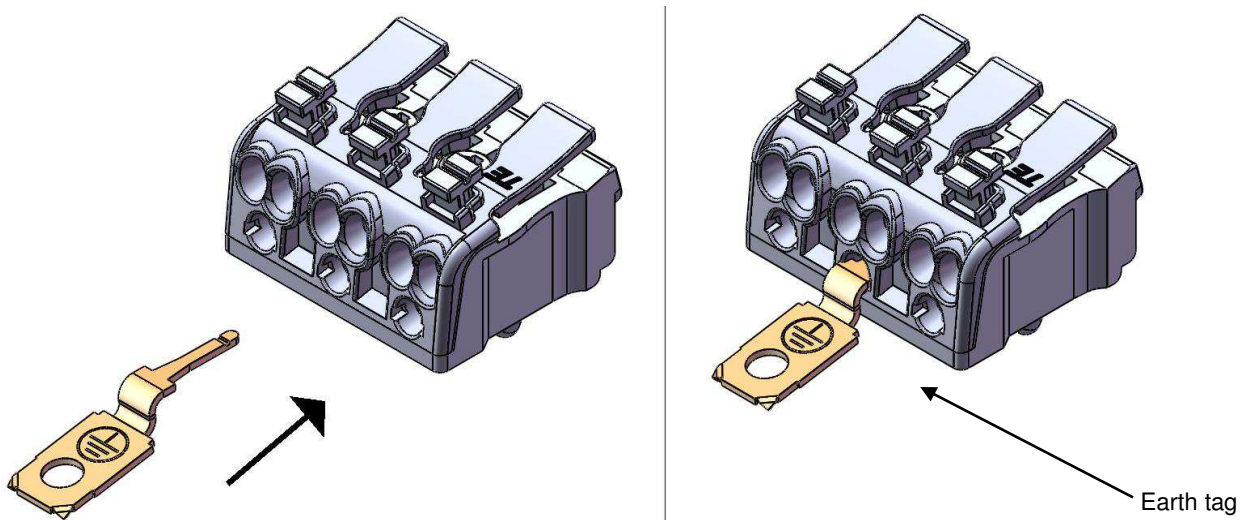

Figure 5
5. Installation of earth tag. Insert earth tag into round hole of desired pole at lower part of the connector. If button of the connector is printed with earth marking \oplus , insert earth tag into round hole of corresponding pole. See figure 5.